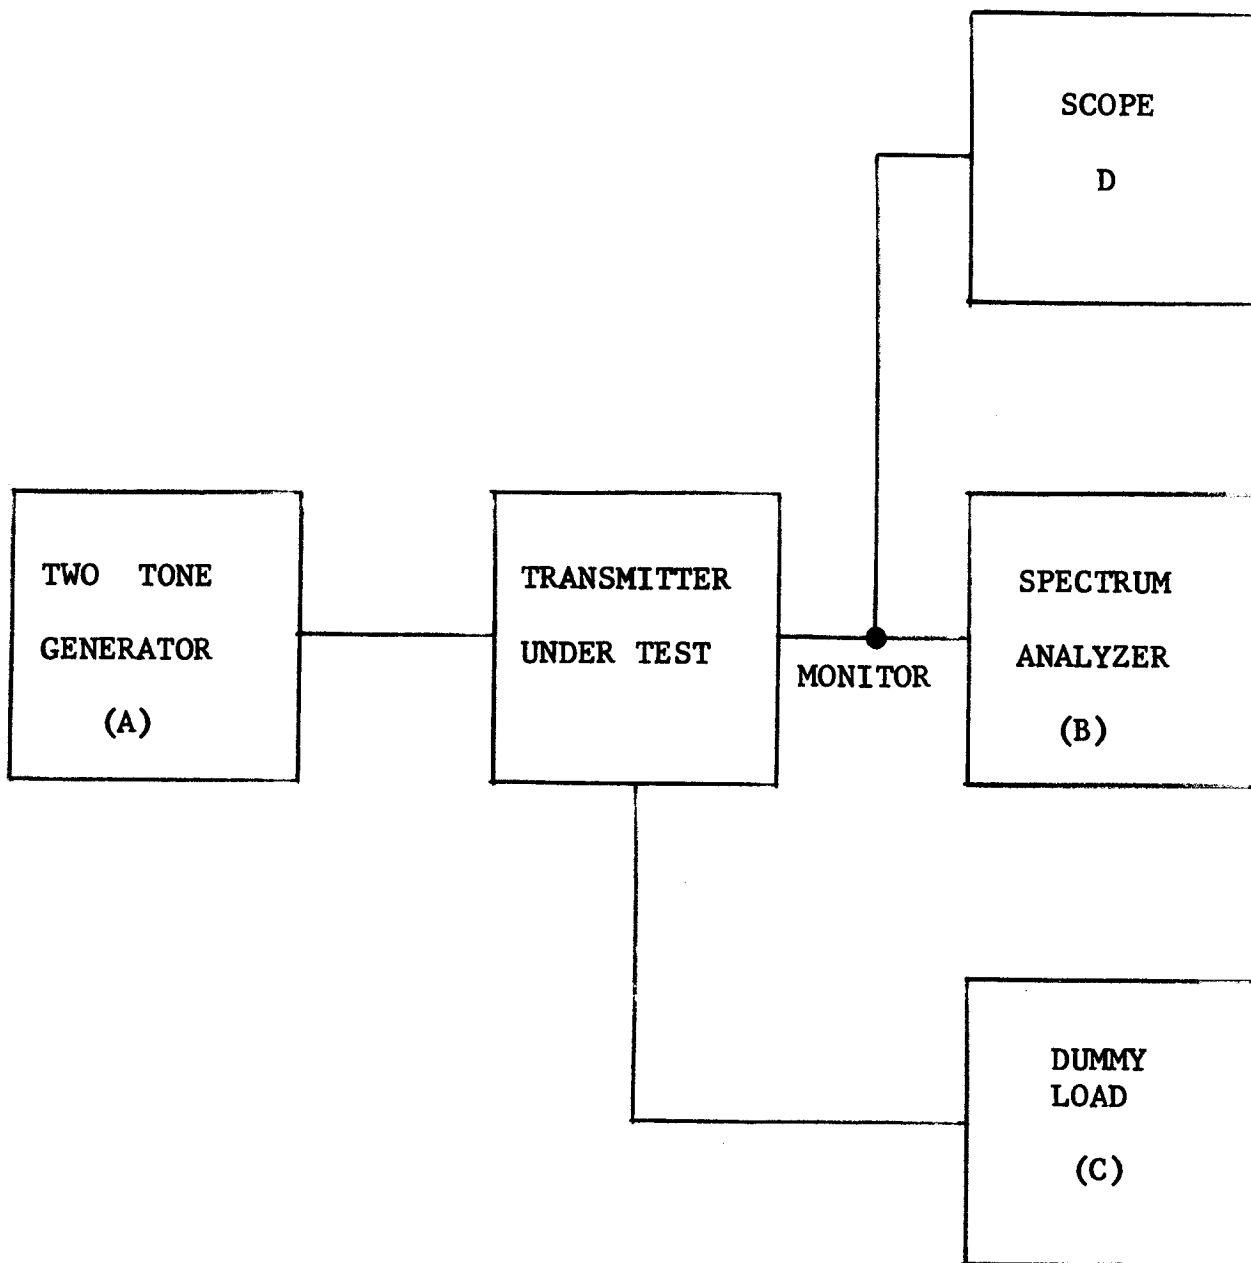

FIGURE 2.3
- a. Connect the equipment as indicated in Figure 2.3